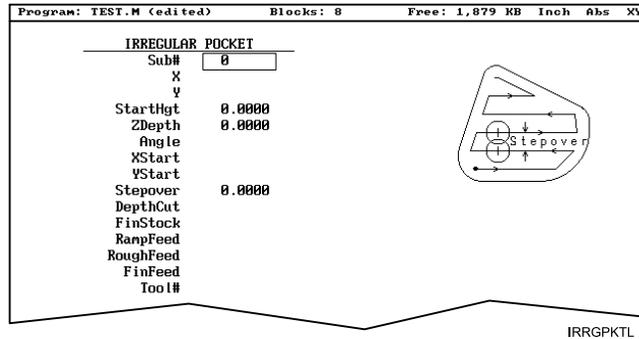

Figure 5-23, IRREGULAR POCKET Graphic Menu
2. Highlight **IRRegular**, and press **ENTER** to display the **IRREGULAR POCKET** Graphic Menu. Refer to **Figure 5-23**.